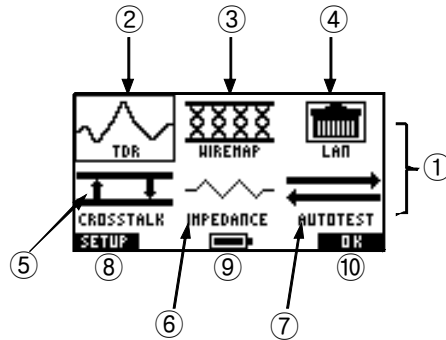

Figure 2 Main Menu
2. Cable must be connected to only one of the two connectors: BNC connector (Ⓣ in Figure 2) or RJ45 connector (Ⓝ in Figure 2).
To change the system parameters, press  in the main menu (See Figure 2).